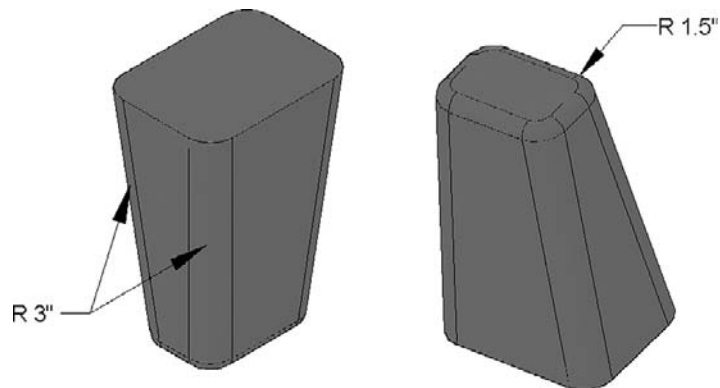

FIGURE 25.20
Step 3. Fillet the side edges with a 3" radius, and the bottom with a 1.5" radius, as seen in Figure 25.20.